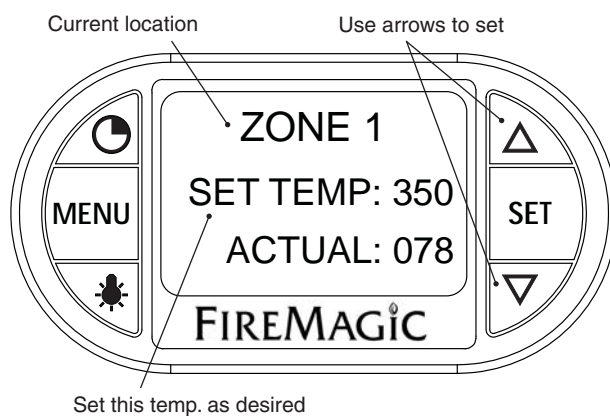

Fig. 23-4 Location temp. screen (zone 1 shown)
2. The selected location's temperature screen will be displayed. Use the arrows to set the desired temp. The actual temp. will also be shown. (See Fig. 23-4.)